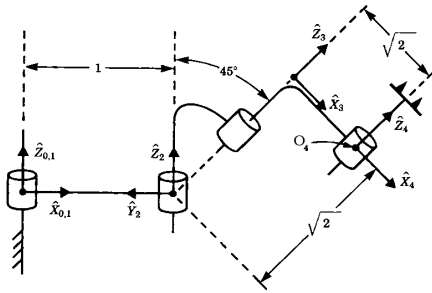

Figure 3: RRRR manipulator
2. Consider the following RRRR manipulator in Figure 3 (image courtesy J. J. Craig):